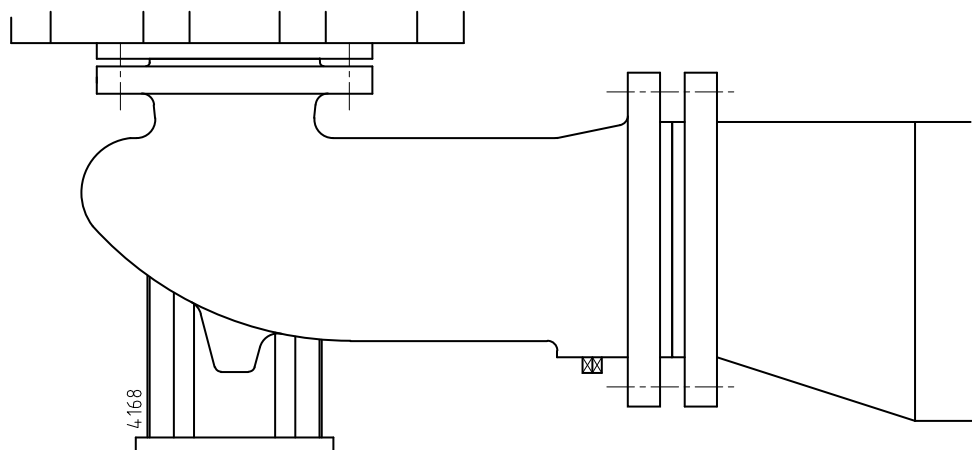

Figure 6: Eccentric reducer to suction flange.
- If the inside diameter of the suction pipe is larger than the suction connection of the pump, an eccentric reducer should be applied to prevent air pockets and whirls. See figure 6.